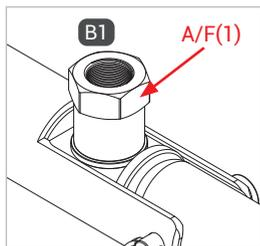

Figure 1
- ▶ When mounting media hose line, hold an open-ended wrench against the wrench size AF(1) (Figure 1).
- ▶ Screw the 'B1' media inlet pressure-tight to the port for the media line (Figure 1).